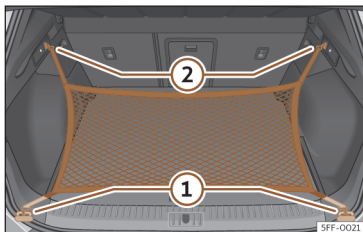

Fig. 181 In the luggage compartment: rings ① and hooks ② for attaching the net bag.
- Secure the short net hooks to the fastening rings >>> Fig. 181 ① >>> ⚠. The bag zip should be facing upwards.
- Secure the straps in the bag hooks ②.